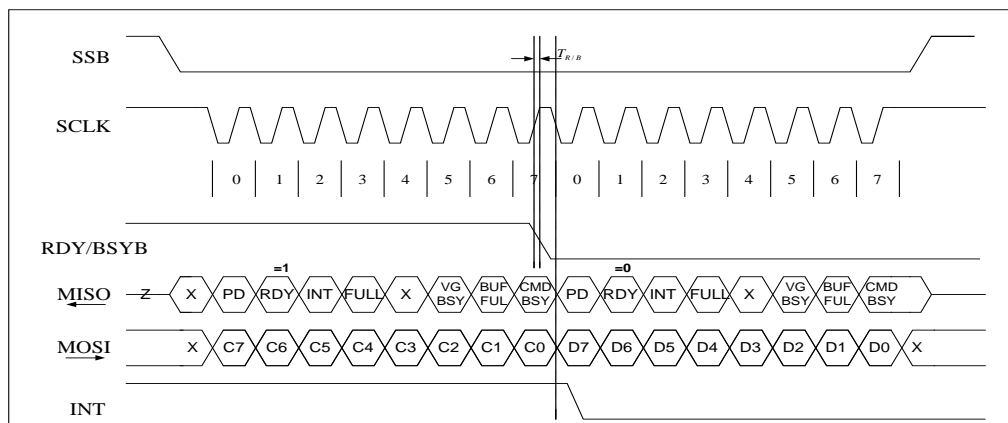

Figure 8-3 RDY/BSYB Ignored for SPI Transactions
For commands that read data from the ISD2360 device, (i.e., DIG_READ, SPI_PCM_READ), MISO is used to read the data. Therefore, the host must monitor the status via the RDY/BSYB pin and take the necessary actions. The INT pin will go low to indicate (1) data overrun/overflow when sending data to the ISD2360; or (2) invalid data from ISD2360. Refer to **Figure 8-3** for the timing diagram in which RDY/BSYB is ignored.